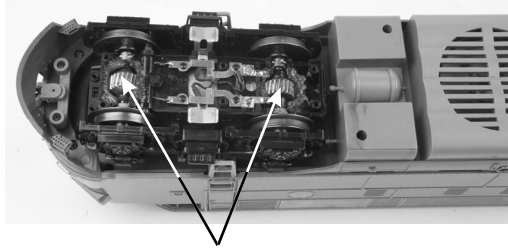

Figure 20: Grease Points Inside Power Truck
2. After removing the truck bottom plate, liberally apply grease to the gears attached to both the outside axles as seen in Figure 20.